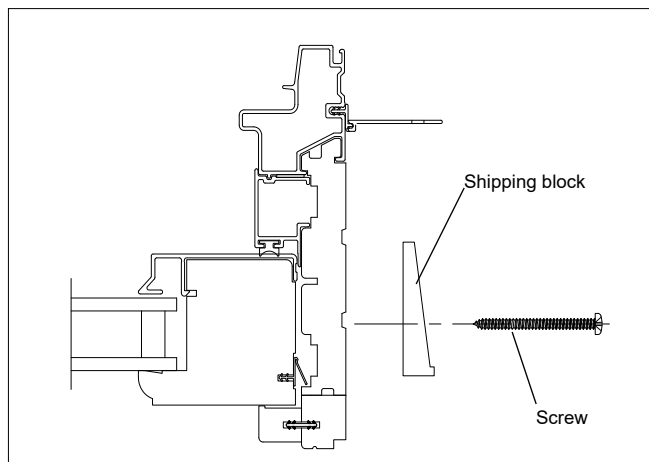

Figure 1
1. Remove packaging materials, staples, and shipping blocks, if any, attached to the exterior frame of the unit. See figure 1.